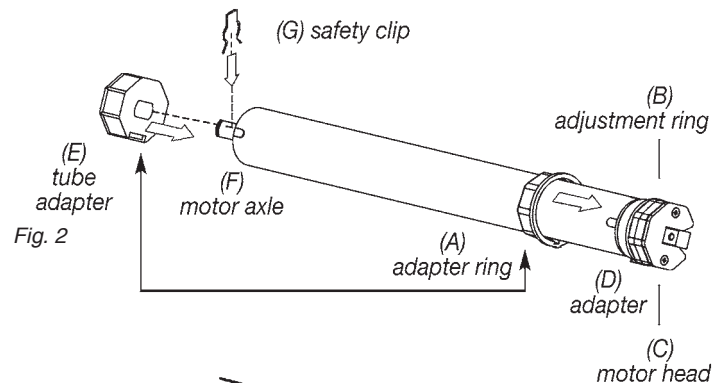
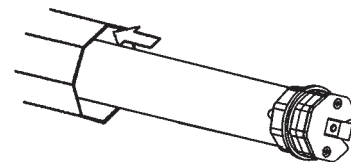

Fig. 2
Fig. 3
5. Slide the Adapter ring (A) on the adjustment ring (B). Be aware of the correct installation of the notch with the Adapter (D), (figure 2).
6. Place the tube adapter (E) on to the motor axle (F) and secure it with the safety clip (G) that comes within the mounting-kit.
7. Be careful when sliding the tubular motor completely into the tubular shaft, until the adapter ring is covered into the tubular shaft, (figure 3). Under no circumstances external force should be applied to the motor in any way.